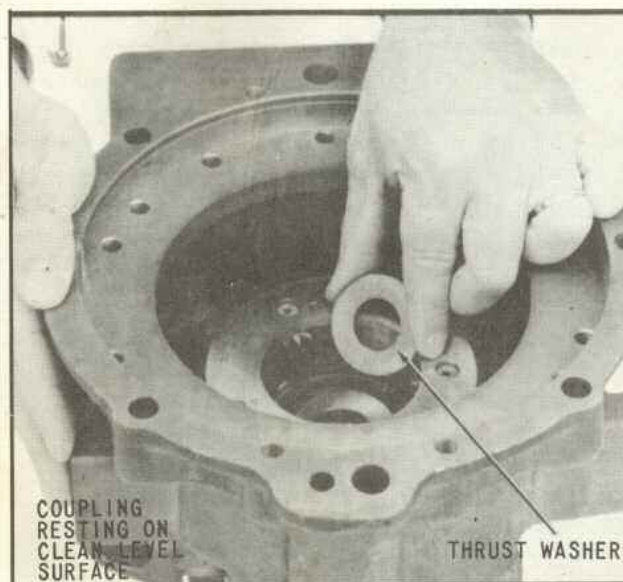

Fig. 52 Installing Thrust Washer
42. Place the parts assembled in steps 1 through 17 inclusive, on a smooth, clean surface in the upright position indicated in (Fig. 52): In this position, the rear face of rear coupling will provide sufficient base to enable assembly to proceed.
43. Coat the drive gear thrust washer with petroleum jelly and assemble into pinion cage and output shaft assembly, as shown in (Fig. 52). Center the washer carefully over bore provided for rear of drive gear.